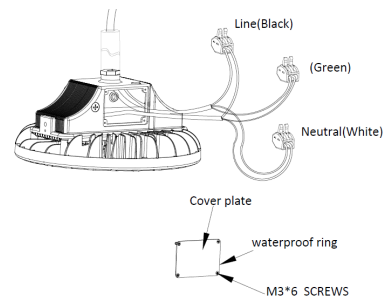

Fig . 15
- Screw one side of the pipe into the 3/4" NPS adaptor, secure another side to the of mounting position. See Fig. 15